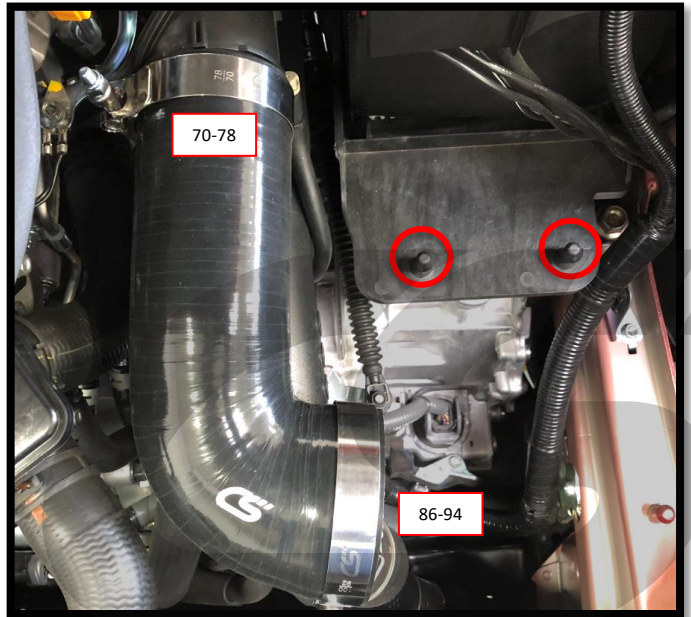

Figure 4a
- c) Insert the smaller end of the CorkSport intake Elbow onto the OEM turbo inlet pipe. Shown in Figure 4a.
- d) Press the rubber isolators installed into the CorkSport MAF support bracket onto the two pegs circled in red in Figure 4a.